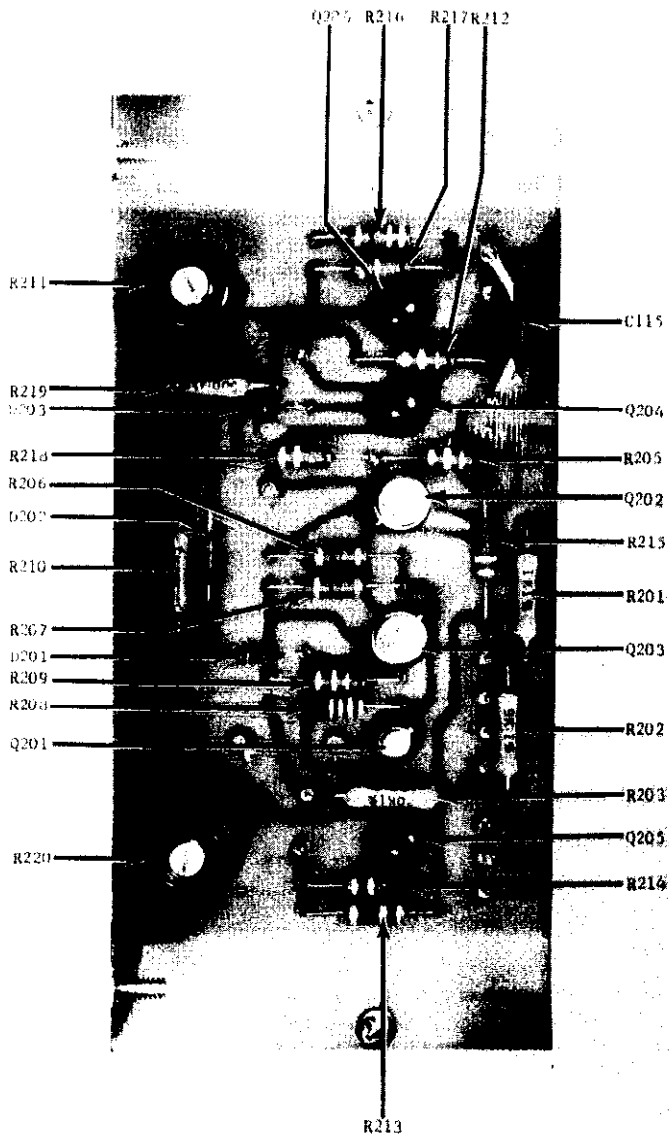

FIGURE 24. Component Locations on Printed Circuit PC-114.
b. Turn the Model 601 on. Zero the meter on the .001-volt range. Then switch to the 10-volt range. Set the Multiplier Switch to 10; apply 10 volts $\pm 0.05\%$ to the Model 601 INPUT Receptacle. Adjust the METER CAL potentiometer, R220 (Figure 24), for full scale meter reading.
c. Set the center zero by first zeroing the meter on the .001-volt range. Then switch to the 1-volt range. Set the METER Switch to CENTER ZERO and adjust the CENTER ZERO CAL potentiometer, R211 (Figure 24), for exact center-scale meter zero.